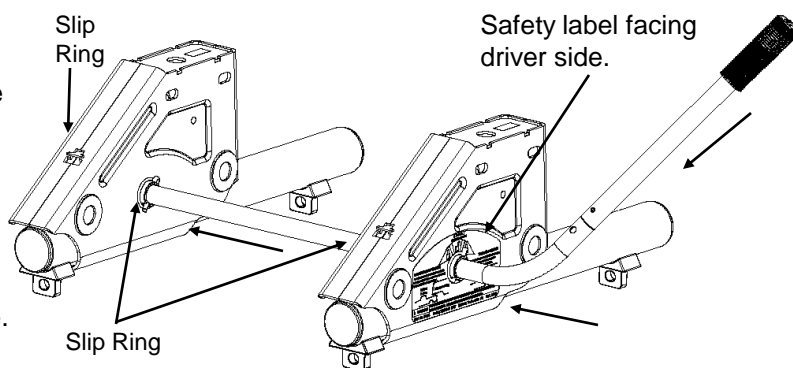

Figure 8
3. Before setting the REESE™ FIFTH Wheel Slider into the bed of the pickup. Insert the bent handle(3) through drivers side assembly(2) (driver's side of towing vehicle) and then through passengers side slide assembly(1). Slide straight handle(9) over bent handle(3). Install roll pin(10). See Figure 8. It may be easier to lay the handles on a firm surface to install the roll pin. Then insert the handle into the drivers and passengers assemblies. When installing handle grip(8), rotate it so the molded finger areas align for your use. Either left hand or right hand usage.